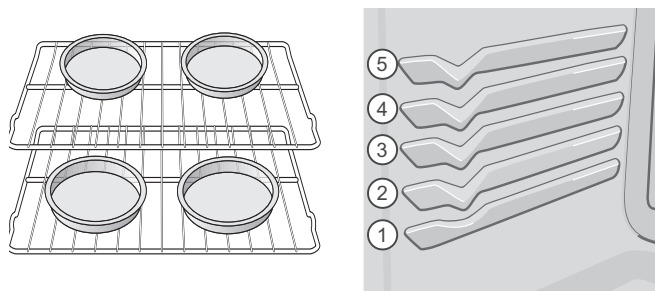

Figure 10: Pan spacing and rack positions
- For best results when baking cakes or cookies using 2 oven racks, place cookware as shown in Figure 10 and place racks in rack positions 2 & 4. Allow at least 2 inches (5cm) of space between bakeware for proper air circulation.